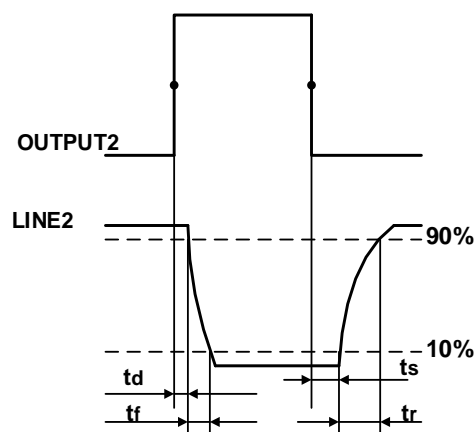

Figure 7-24 Parameter of Line2 output circuit
- Rising time delay = tr+td: <20μs (0°C~45°C) (parameter description as shown in Figure 7-24)
- Falling time delay = ts+tf: <20μs (0°C~45°C) (parameter description as shown in Figure 7-24)